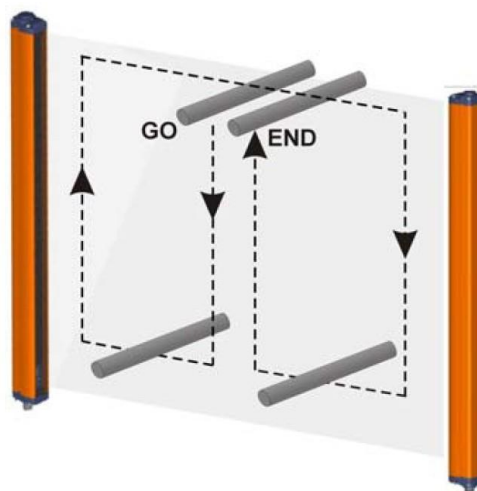

Figure 20
- ESPE remains in SAFE state (➡) intercepting the beams along the protected area using the specific test piece (TP-40, TP-50, TP-90), following the Figure 20 scheme.